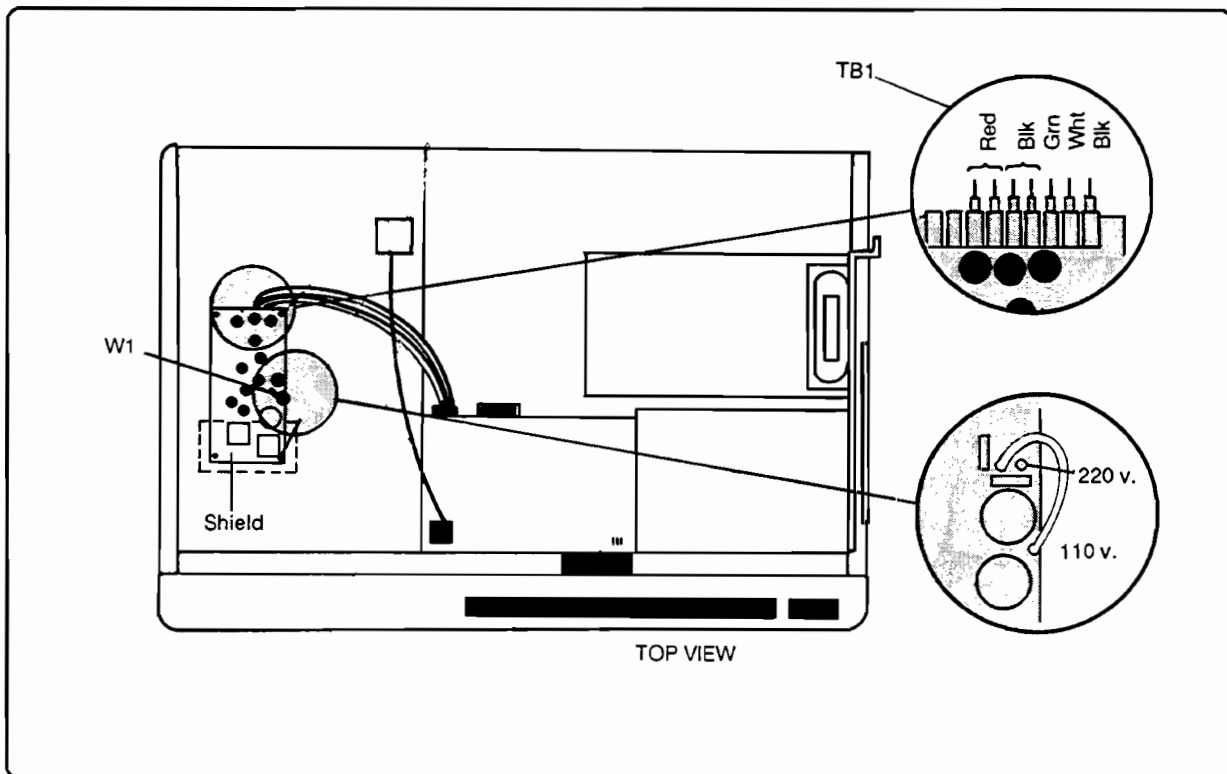

Figure 6-26. Formatter Power Supply PCA
The Formatter Power Supply PCA is located in the left of the Formatter and I/O area as shown in Figure 6-26.
3. Disconnect the wiring from the terminal block (TB1). Be sure to note the locations of each wire as shown in Figure 6-26.
1. Place the W1 jumper on the proper input voltage - 220/240 or 120V (see Figure 6-26).